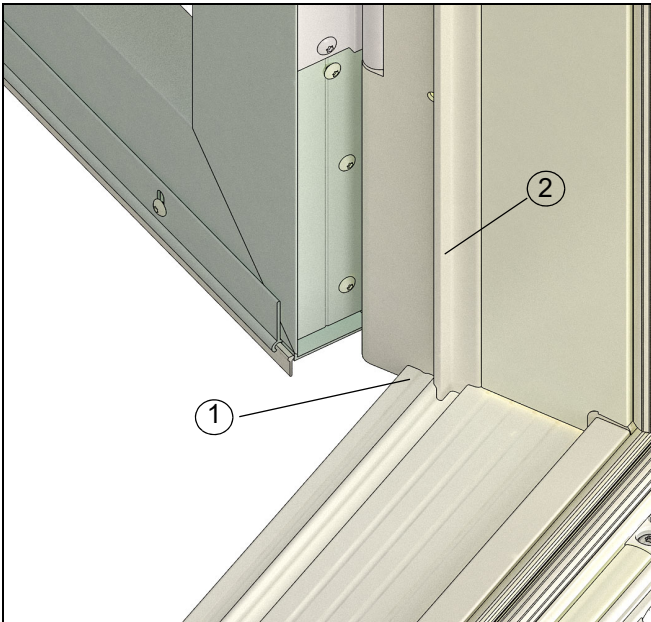

Figure 7
1. Unpack a screen door panel and orient correctly in front of the door by using the z-bar top miter joint as a guide. Lift and align the bottom of the hinge z-bar (attached to panel) to the sill contour. Guide the leg of the z-bar between the jamb adapter and the jamb. See Figure 7.